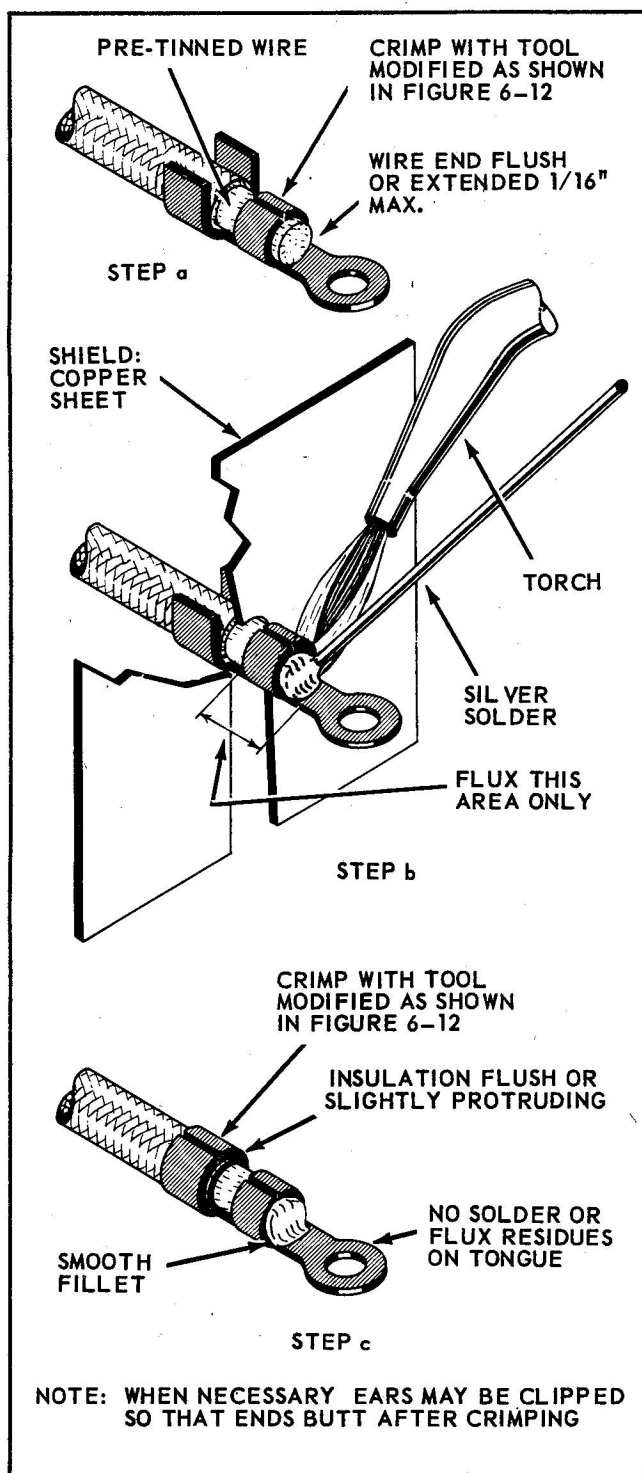
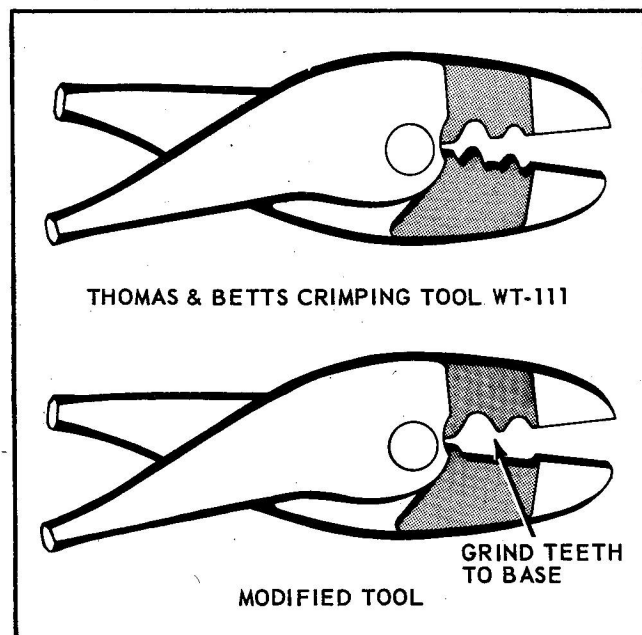

Figure 6-11. Silver Soldering Thermocouple Wire To Terminal
Figure 6-12. Modified Crimping Tool for Thermocouple Terminals
- b. Install terminal on wire so that insulation is flush with or protrudes slightly beyond insulation grip. The tinned portion of the conductor should then be inside the wire grip. See Figure 6-11.
- c. Crimp wire grip over conductor using modified crimping tool illustrated in Figure 6-12.
6-21. TORCH SOLDERING TERMINALS TO THERMOCOUPLE WIRE. See Figure 6-11.
b. Secure insulation grip on insulation using modified crimping tool shown in Figure 6-12. The final result is shown in Figure 6-11 step c.
6-24. SERVING THERMOCOUPLE WIRE. After soldering operation has been completed, and solder has cooled, serve thermocouples at the branching point as shown in Figure 6-11. Use nylon or waxed cotton cord in cool areas, and fiberglass cord in hot areas. Coat the serving with clear lacquer. The serving will prevent unraveling of the outer jacket.
a. Install terminals on thermocouple wires as described in paragraph 6-20, and illustrated in Figure 6-11 step a.
d. Bend insulation grip ears around insulation using modified crimping tool shown in Figure 6-12. Trim ears so they butt flush around small wires. See Figure 6-11 step c.